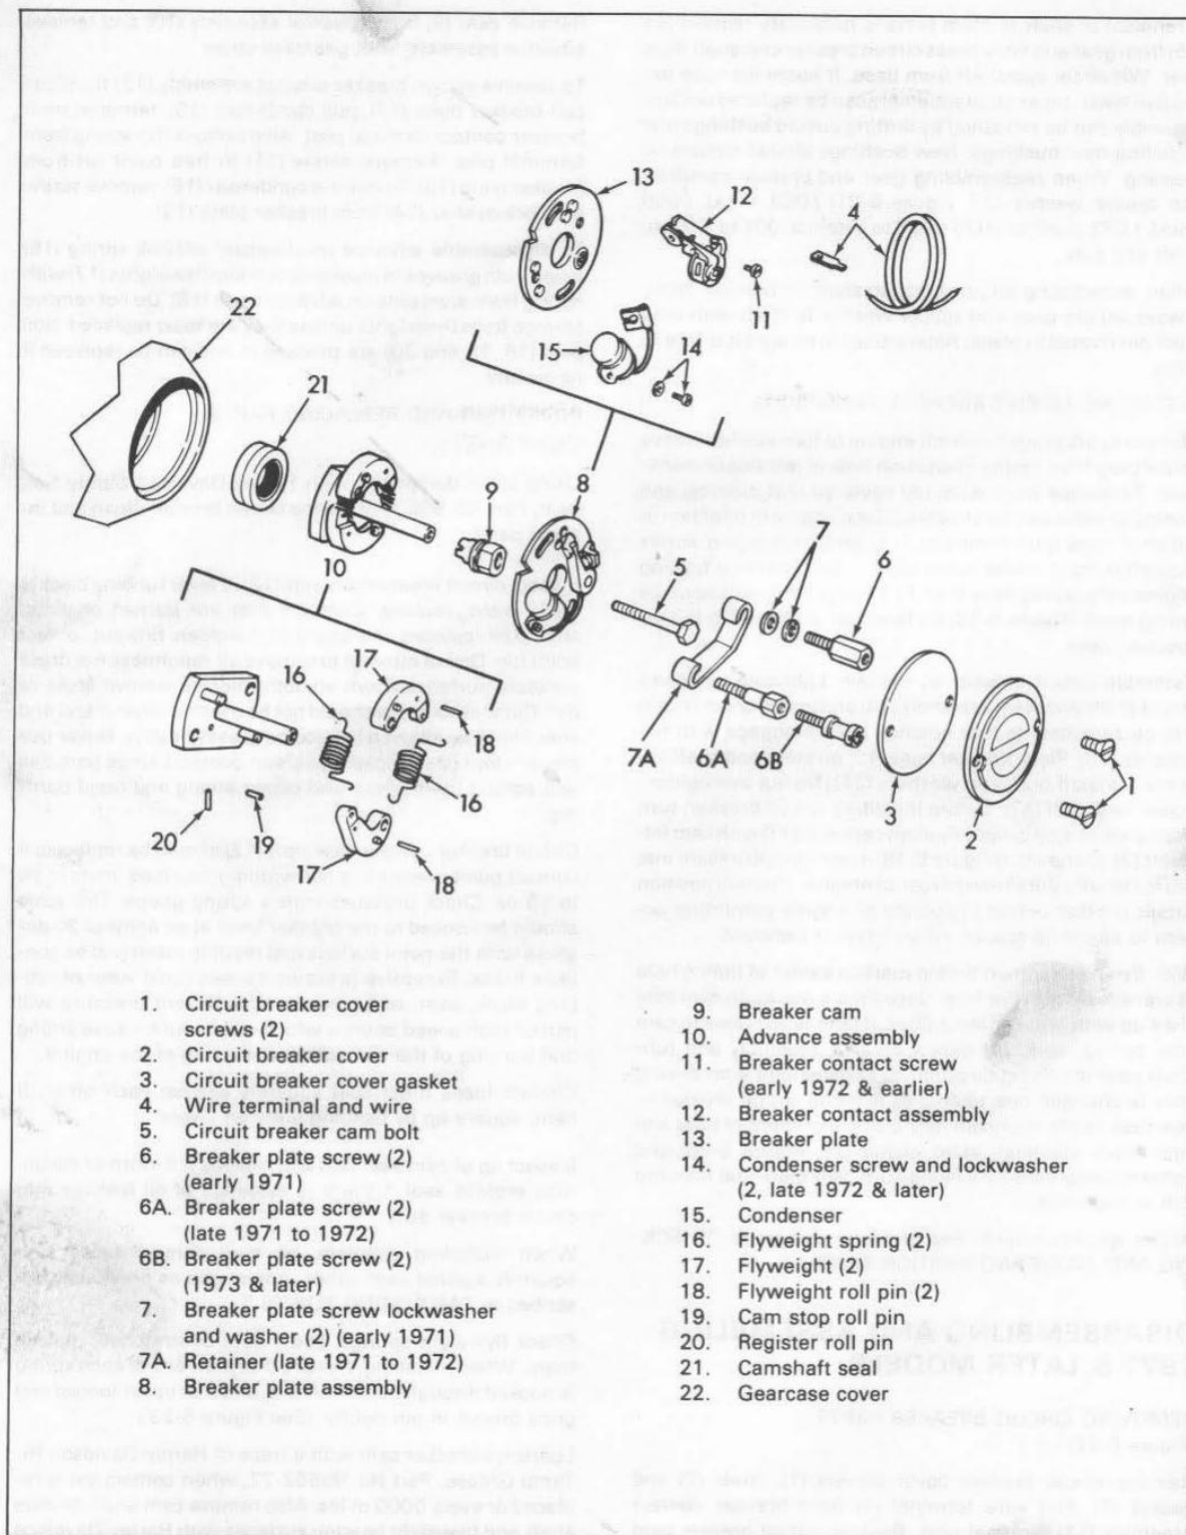

Figure 5-22. 1971 & Later Circuit Breaker - Exploded View
REMOVING CIRCUIT BREAKER PARTS (Figure 5-22)
INSPECTING AND REPLACING PARTS (Figure 5-22)
Examine the coil to circuit breaker low tension wire (4, Figure 5-22) for brittle or cracked insulation and broken strands and replace if defective.
Advance assembly (10, Figure 5-22) must seat squarely and firmly on end of camshaft.
Assemble circuit breaker plate (8, Figure 5-22) so that screws are centered in slots (for approximate timing).
Circuit breaker point gap should be within .016 to .020 in. limits on both cam lobes. If not within this range, the cam (9, Figure 5-22) or advanced assembly (10, Figure 5-22) may be assembled incorrectly on camshaft, or parts may be damaged, causing eccentric operation. Generally, loosening bolt (5) and repositioning advance assembly (10) toward widest point gap will equalize gap satisfactorily.